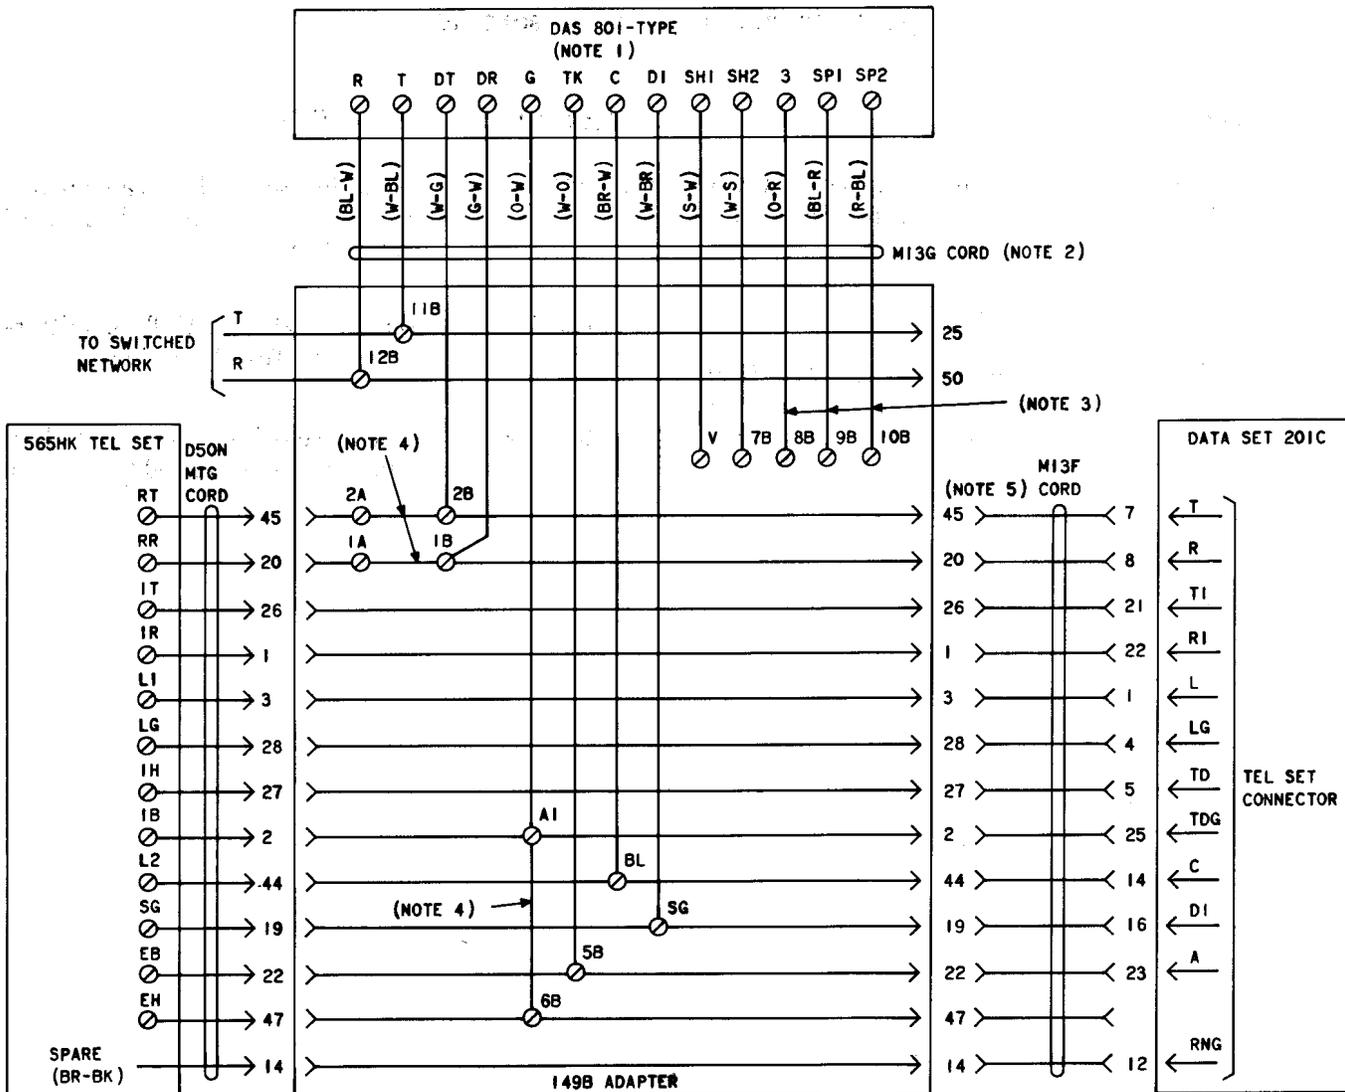
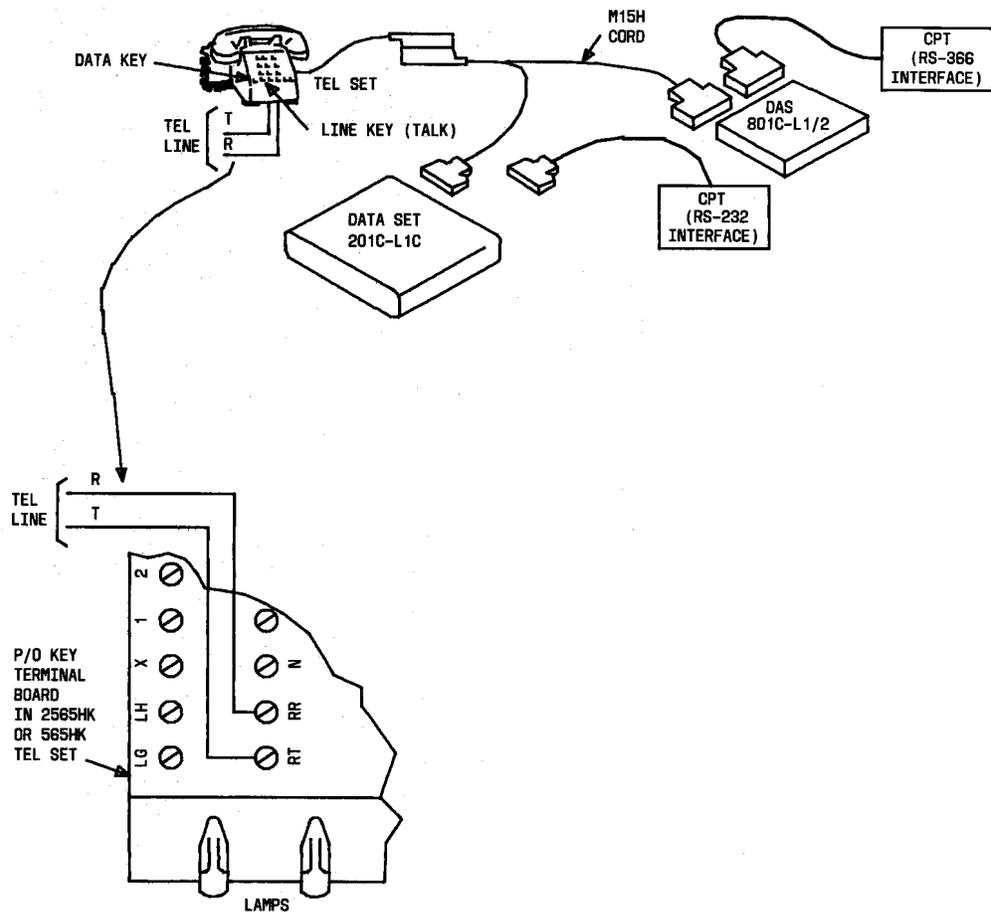

Fig. 6—Connection Wiring for DS 201C-L1C With an 801C ACU
Fig. 7—DS 201C-L1C With an 801C ACU Using M15H Cord
4.04 DS 201C-L1C With ACU: When a single DS 201C-L1C is installed with an ACU, connect cables and connect tip and ring as shown in Fig. 5. Figure 6 provides detailed wiring which may be useful in troubleshooting this arrangement. Figure 7 shows an alternate connection for DAS 801C-list type equipped with an M15H cord.